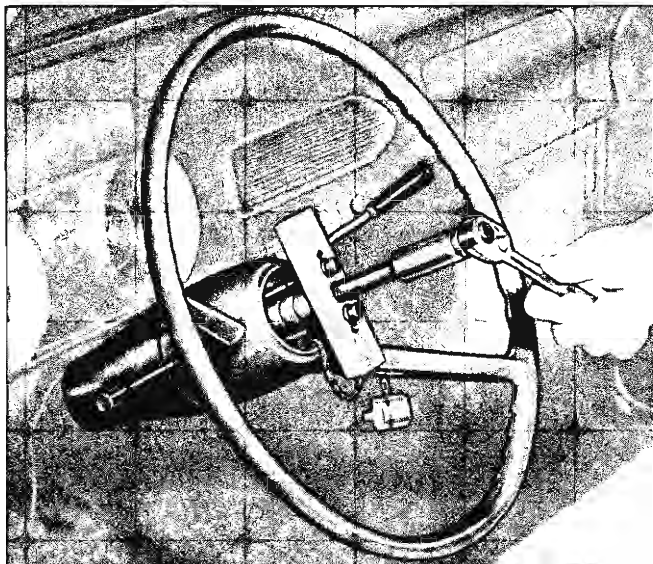

Fig. 5—Removing Steering Wheel with J-2927
6. Using Tool J-2927 install centering adapter on steering shaft, thread puller anchor screws into threaded holes provided in steering wheel. Turn center bolt of tool clockwise to remove steering wheel. (fig. 5)